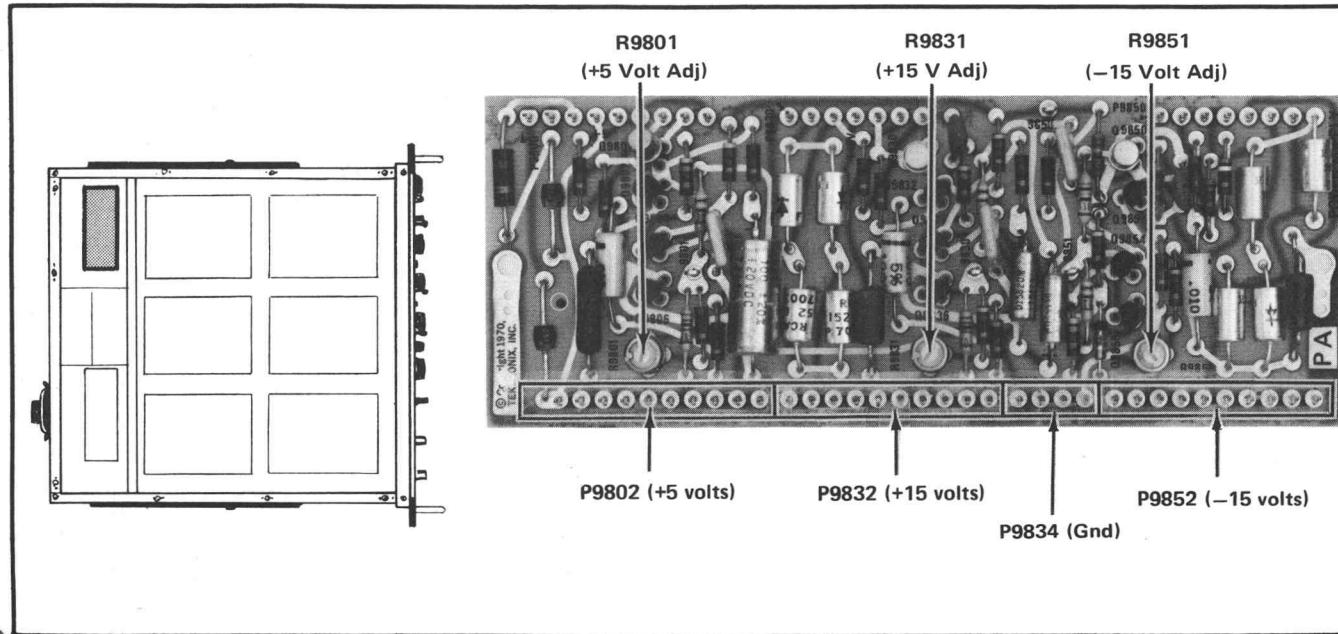

Fig. 4-5. Power Supply test point and adjustment locations.
- a. Connect a precision dc voltmeter between chassis ground (pin 1 of P9834) and P9852 (-15 V), see Fig. 4-5.